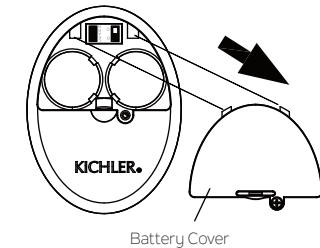

Fig. 27
**Step 2.** Using a screwdriver, remove the battery cover from the handset and save the screw for later use. (Fig. 27)